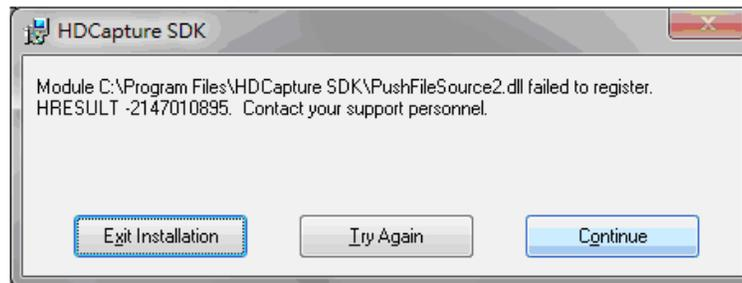

Figure 1-12: Installation Error Messages
Step 7: If an error happens during the installation (as shown in **Figure 1-12**), click **Continue** to continue the installation.